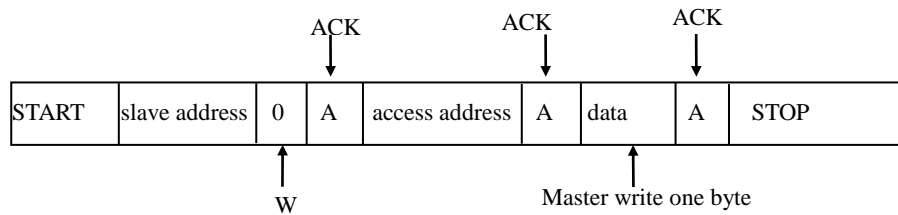

Figure 15-7 Master write one byte data to slave
As Figure 15-7 shown, when master send one byte to slave, first master send a start signal, and a slave address followed, the address has 7bits, then the 8th bit followed is data direction bit(R/W), 0 indicates master send data (write), 1 indicates master receive data (read), this time master wait slave give a acknowledge(A), when master received an acknowledge signal, send the address will be accessed, and wait slave give an acknowledge again, then master will send one byte data after received an acknowledge, and continuous to wait slave give an acknowledge, when master received the acknowledge, it will generate a stop signal, and end the transmission.
As Figure 15-7 shown, master read one byte data from slave, first master sends a START signal, then follows a slave address, the 8th bit of the address is 0, it indicates a write command to slave, the master wait slave give an acknowledge(A) at this time, when master received an acknowledge signal, send the address will be accessed, and wait slave give an acknowledge again, then master will change the communication mode(master changed from transmitter to receiver, slave changed from receiver to transmitter) after received an acknowledge. So master send a restart signal, then follows a slave address, the 8th bit is 1, it indicates master has been set receive mode and start to receive data, this time master wait an acknowledge from slave, when master received acknowledge signal, then it can receive one byte data, when receive is completed, master send a no acknowledge signal, it indicates receive end, master generates a stop signal, and end the transmission.